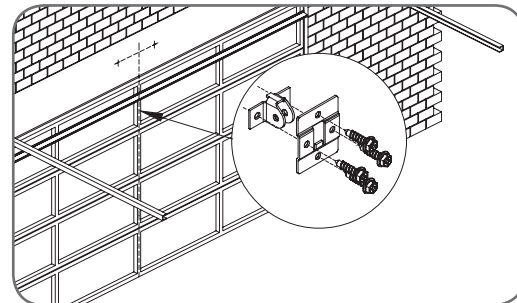

fig 14
The door bracket comes in two parts. For sectional doors, the top plate is placed over the bottom plate and is fixed with four (4) screws (**Fig. 14**).
- Mount the door bracket, or bracket assembly, on the door's centre line one-third down the top panel (**Fig. 14**) using M6 or equivalent screws (not supplied),